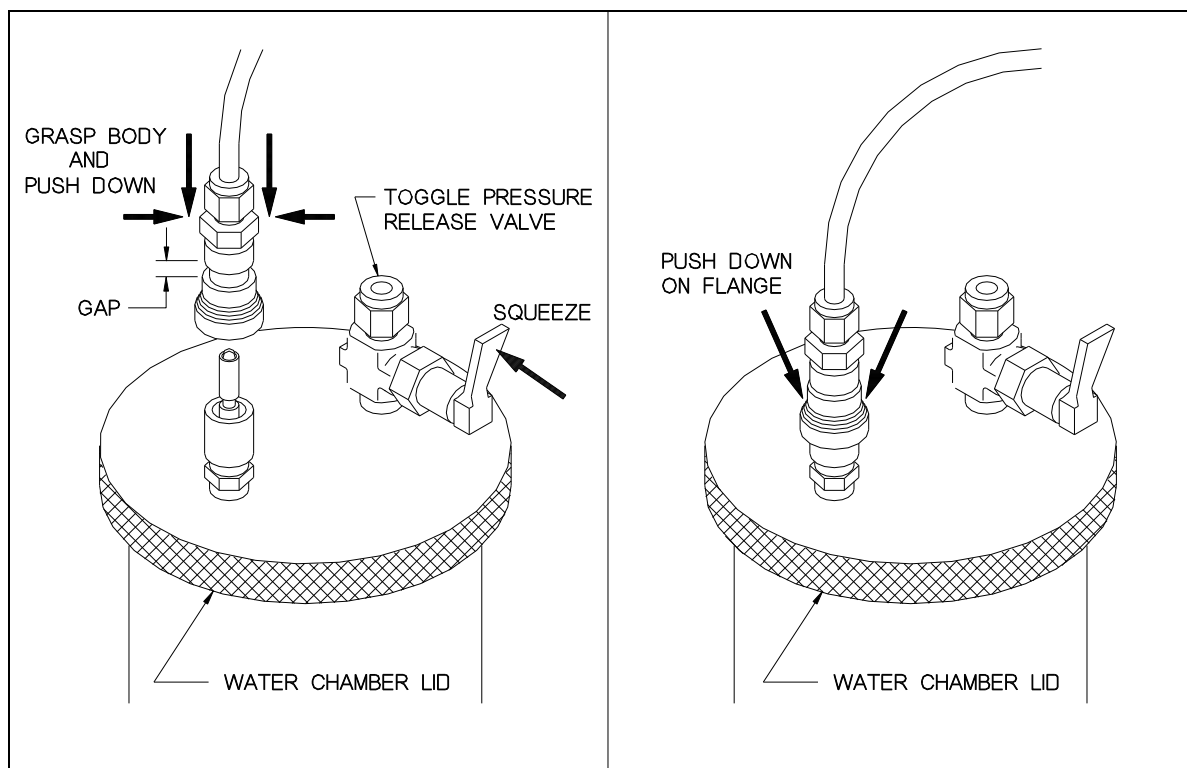

Figure 14: Air Quick-Connect on Top of Water Chamber
- Connect the metal quick-connect located on the lid of the water chamber (Figure 14 below) to the female quick connect at air supply tubing by pushing the two metal fittings together until they snap into the latched position.
The toggle pressure release valve as shown in Figure 14 below is in the normal CLOSED position. To OPEN the valve squeeze the black handle towards the body of the valve. The valve opens momentarily to release pressure from the system (or Water chamber).
- Then release the excess pressure using the toggle pressure release valve on top of the water chamber. Squeeze the black handle of the toggle valve toward the body of the valve momentarily (Figure 14, Section 4.1). The water chamber gauge needle will show a drop in pressure.